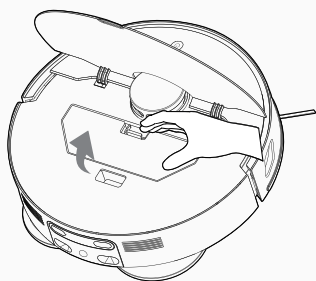

Fig. 8
2. Open the robot's top cover, press and hold the dust box release button to remove the dust box. [Fig. 8]